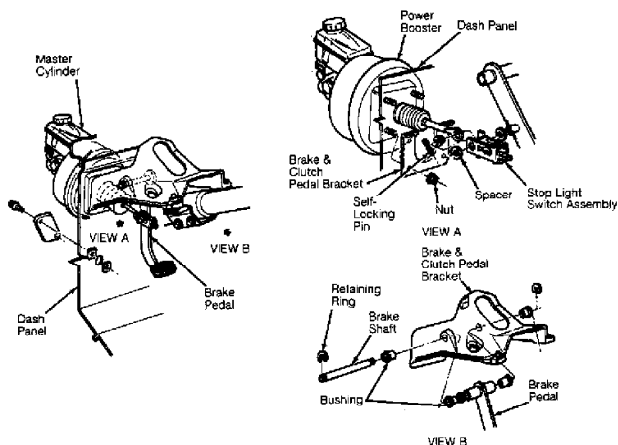

Fig. 22: Removing Master Cylinder & Power Brake Unit (Typical)
2) Remove power brake unit-to-firewall nuts. Remove power brake unit. See Fig. 22 To install, reverse removal procedure. Bleed hydraulic system.